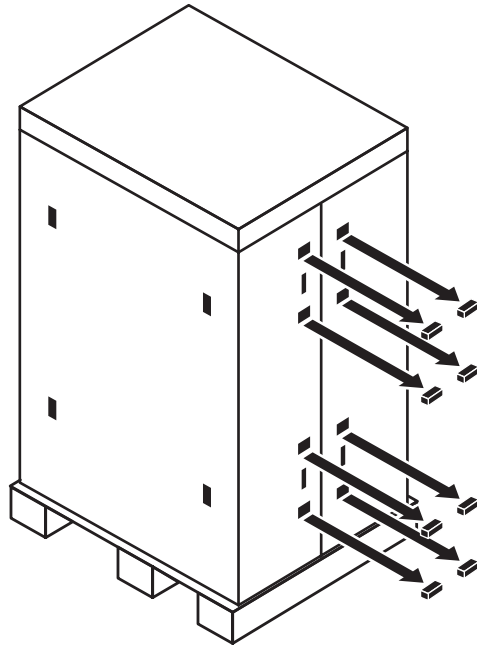

Figure 2: Removing the retaining clips
2. Remove the eight cardboard box retaining clips (see Figure 2).